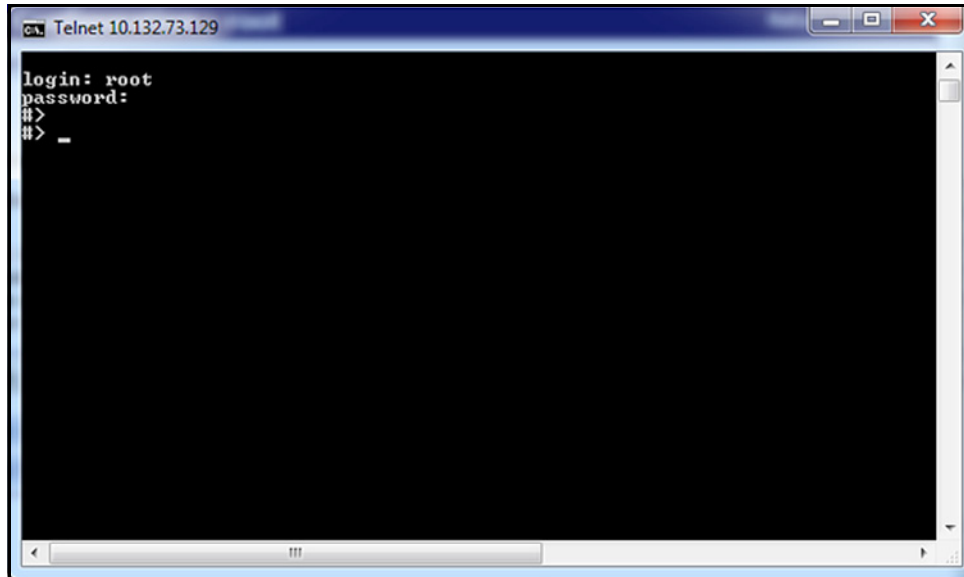

Figure 116: Telnet Login
- At the module login: prompt, log in using the root account. Your password will not be echoed back. Upon successful login, the #> module prompt is displayed (see Figure 116 below).